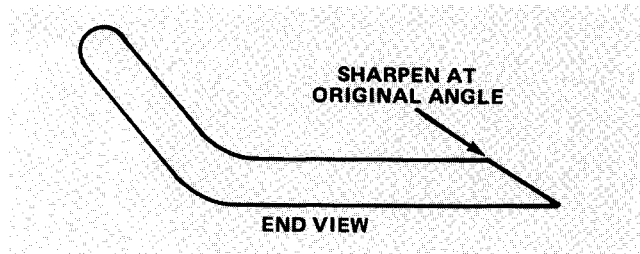

Figure 30
3. Examine cutting edges of all blades. Sharpen the cutting edges if they are dull or nicked. Sharpen only the top side of the cutting edge and maintain the original cutting angle to assure sharpness (Fig. 30). The blade will remain balanced if same amount of metal is removed from both cutting edges.